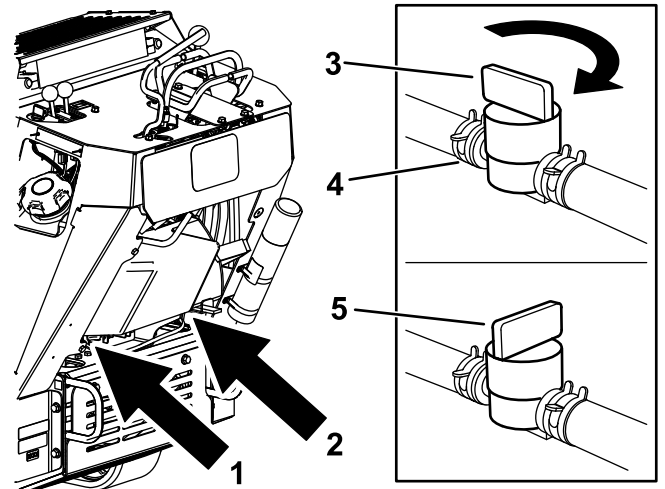

Figure 45
3. Turn the fuel-shutoff valve to the closed position (Figure 45).
4. Squeeze the ends of the hose clamp on the engine side of the valve together and slide it up the fuel line away from the valve (Figure 45).
5. Pull the fuel line off the valve (Figure 45).
3. Turn the fuel shutoff valve to the closed position (Figure 45).
5. Turn the fuel shutoff valve to the open position (Figure 45).